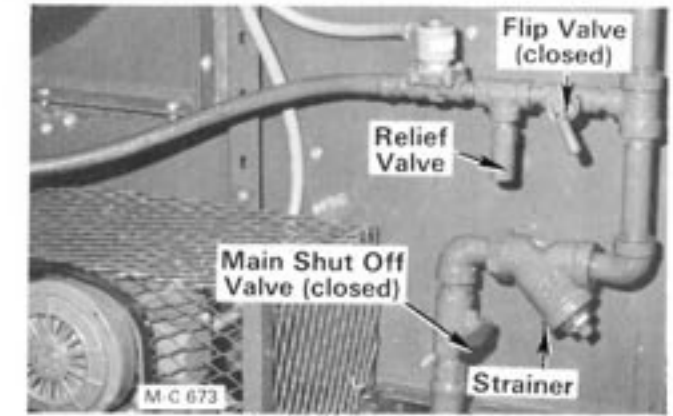

Figure 33 - LP Gas
7. **LP Gas** - Remove the plug at the end of each strainer, see Figure 33 and 34. Remove and clean the screen in each strainer. Check flexible LP hoses for signs of fatigue, replace as necessary.
3. **LP Gas** - Open the supply valve at the tank, the hand valve at the LP Gas inlet hose and open (lift up) the liquid line flip valve on each burner, see Figure 33.